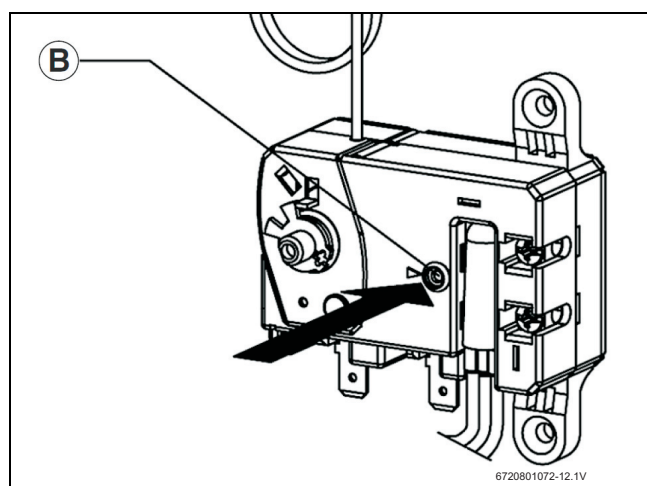

Fig. 13
- ▶ Firmly press reset button (Fig. 13, [B]) with the tip of a ball point pen or similar object.